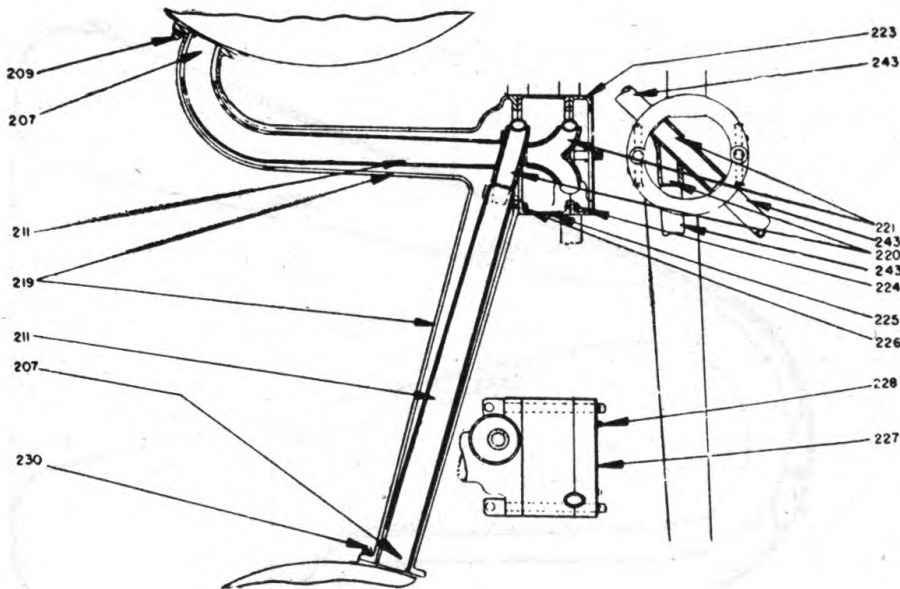

FIGURE 11.
29. To disassemble the double horn arm, and referring to figure 11: